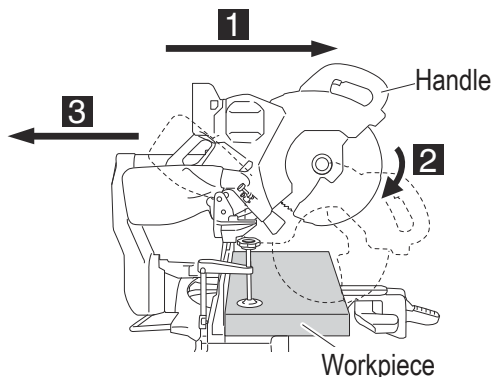

Fig. 25
7. Cutting wide workpieces (Slide cutting) (Fig. 25)